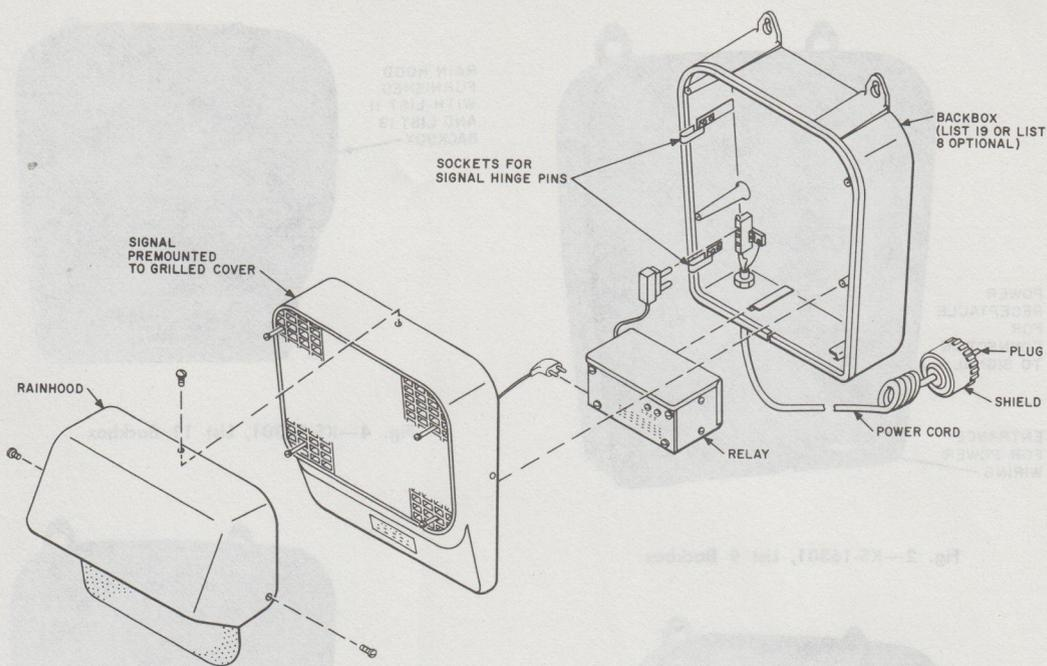

Fig. 1—Exploded View of Assembled Signal Using Relay
- A typical signal (Fig. 1) includes a backbox, a signal premounted to a grilled cover, and a control relay.
3.07 Backbox, KS-16301 (Fig. 1, 2, 3, 4, and 5):
- Mount relay in the horizontal position on mounts provided in backbox (Fig. 1).
- Engage the two pins on front cover to form a hinge with the two sockets which emerge from backbox (Fig. 1)
- Fasten the signal to the backbox with four machine screws which are furnished (Fig. 1).
- Attach with furnished screws to the signal unit (Fig. 1).